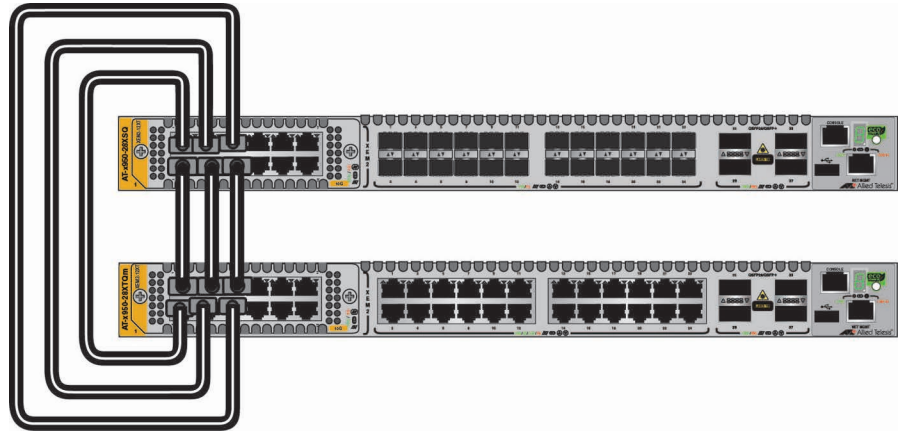

Figure 36. Example Trunk Using AT-XEM2-12XT Line Cards
- ❑ Figure 36 on page 94 is an example of a stack of two switches with a trunk of six 10G links on AT-XEM2-12XT Line Cards.